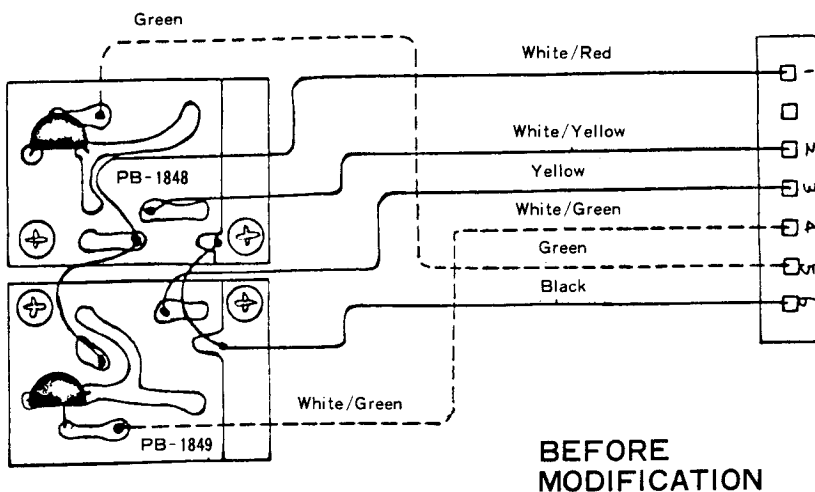

Figure 15.
- (3) Referring to Figure 15, locate the white/green wire connected between pin 4 of P₁ and PB-1848; also locate the green wire connected between pin 5 of P₁ and PB-1849. Reverse these wires by unsoldering them from the circuit boards and installing the green wire to PB-1848, the white/green wire to PB-1849.